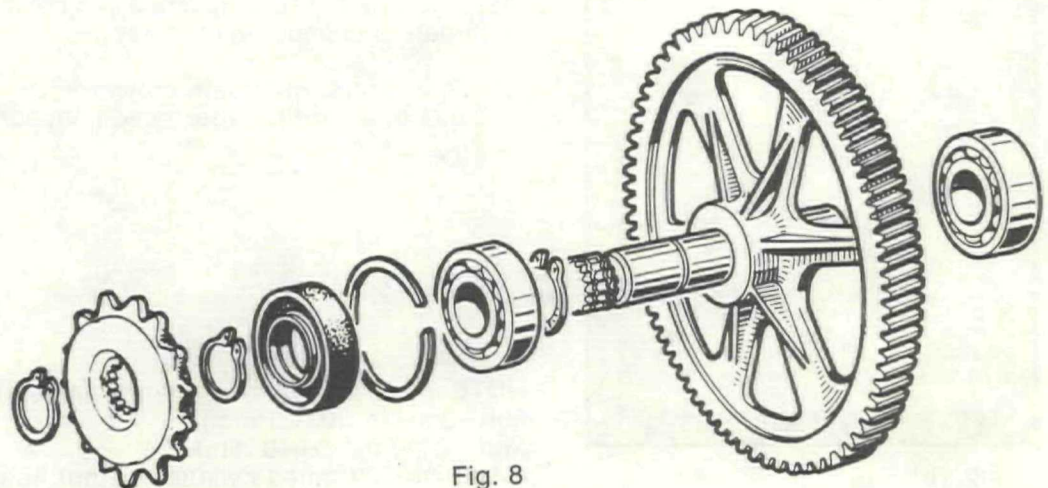

Fig. 8
**NOTE:** Transmission main shaft and primary drive gear are pressed together and must not be disassembled (fig. 8).